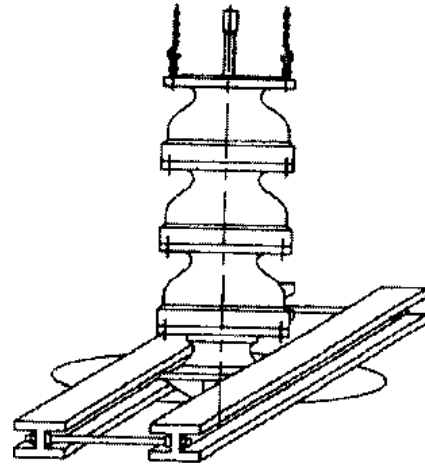

Figure 6
8. Attach a sling to the elevator clamps, eyebolts, or lifting bail and hoist it into position over the foundation opening. (See Figure 6).
1. Insert tube (654) and shaft (646) sections into column section.
2. Place an elevator clamp near top of column just below and butt firmly against column pipe coupling (645). For flanged columns, place the elevator clamp just below the flange.
3. Attach a sling to hoist hook. Attach bottom of shaft (646) to column (644), by tying a tail rope to deep-throated clamp attached to bottom of column. (See Figure 6). Tie a clove hitch or double half hitch around the enclosing tube and then around the shaft in threaded area. Figure 6 also shows the alternate method (dotted lines).